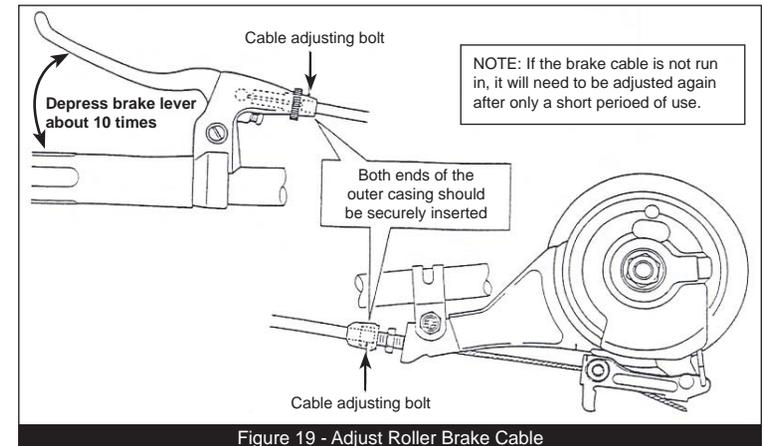

Figure 19 - Adjust Roller Brake Cable
1) check that the wheel does not easily turn while the brake cable is being pulled; 2) depress the brake lever about 10 times as far as the grip in order to run in the brake cable; 3) check that both ends of the outer casing are securely inserted into the cable adjusting bolts of both the brake lever and brake arm. See Figure 19.